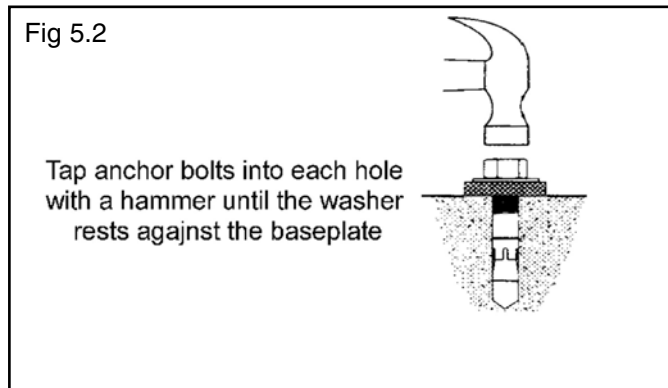

Fig 5.2
4. Assemble the washers and nuts on the anchors then tap into each hole with a hammer until the washer rests against the base plate. If shimming is required be sure that enough threads are left exposed. (See Fig. 5.2)